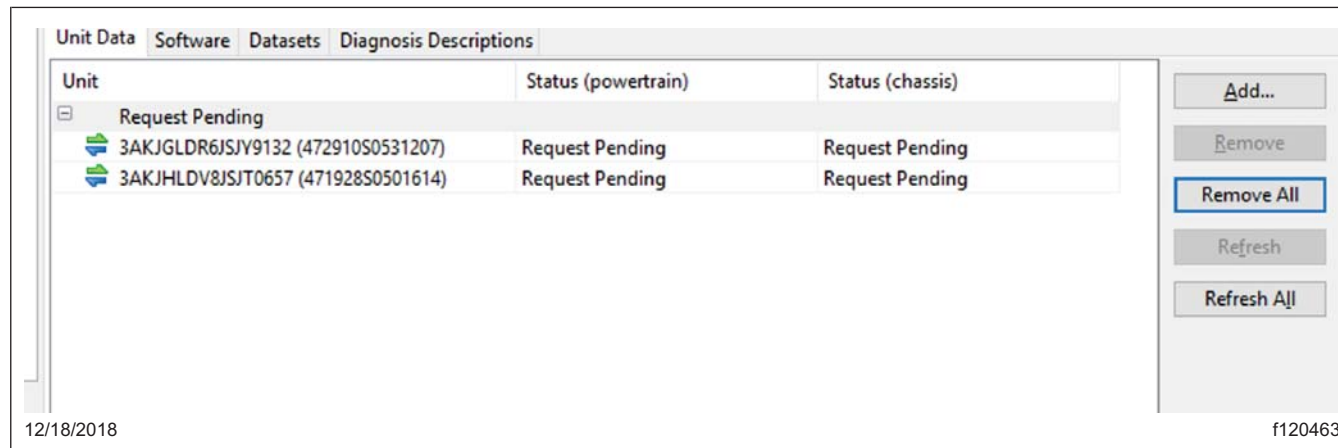

Fig. 3, Removing Pending Requests
- 4.1 If there are any items in the section "Request Pending" downloads, they should be removed. To remove them, select the "Request Pending" list item, then press the "Remove All" button. See Fig. 3.